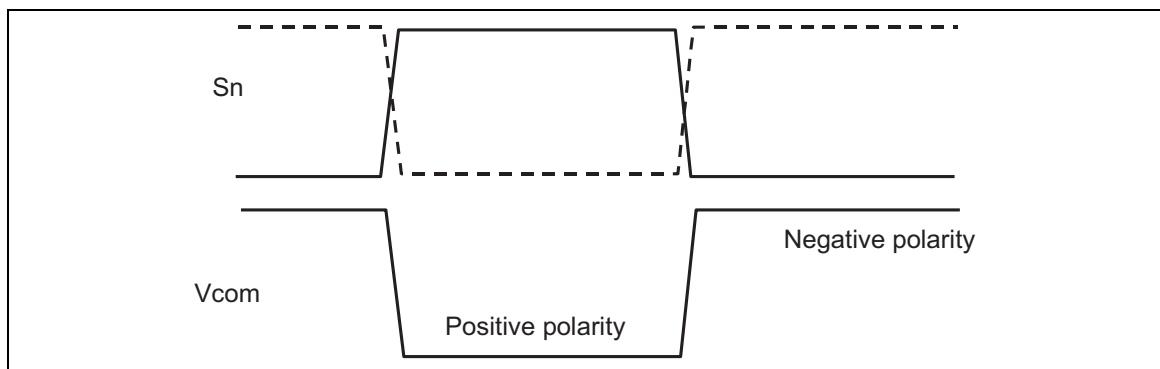

Figure 74 Source Output Waveform and Vcom Polarity
2. The numbers in the parentheses correspond to the numbers in Figure 74.